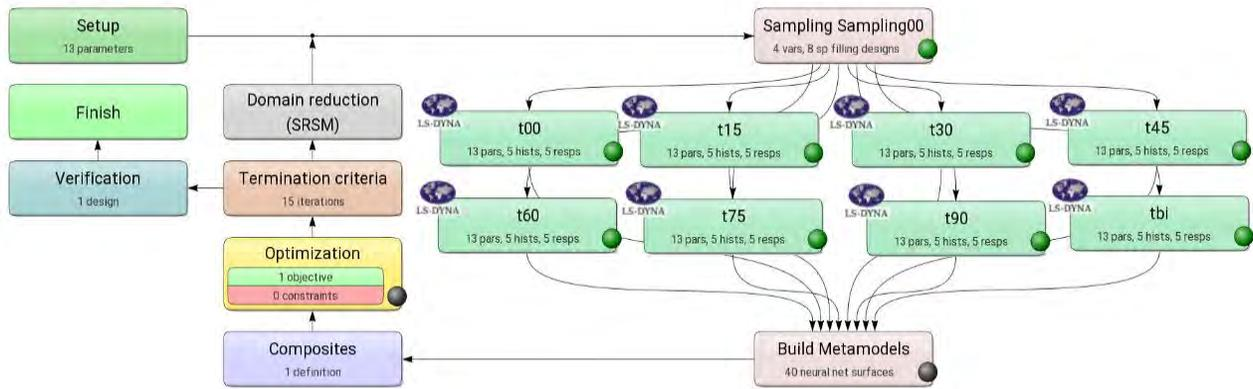

Figure 1 A schematic view of LS-OPT® setup to calibrate anisotropic parameters of material type 263
Figure 1 illustrates the structure of a material parameter identification project built in LS-OPT®. The key steps of setting up this project include: (1) set up the parameters to be identified, and in this case, the anisotropic parameter set ( $c'_1, c'_2, c'_3, c'_6$ ); (2) set up a series of simulation stages which predicts the material's yield behavior under experimental conditions, and in this case, a total of eight stages, including 7 uniaxial tensile tests, in the direction of  $0^\circ, 15^\circ, 30^\circ, 45^\circ, 60^\circ, 75^\circ$  and  $90^\circ$  respectively, and one balanced biaxial tensile test, are set up in the project; (3) set up the optimization objective, which is to minimize an error function (termed as composite in LS-OPT®) which measures the differences in yield stresses predicted by the model and observed from experiments. The definition of the error function is given by equation (9):